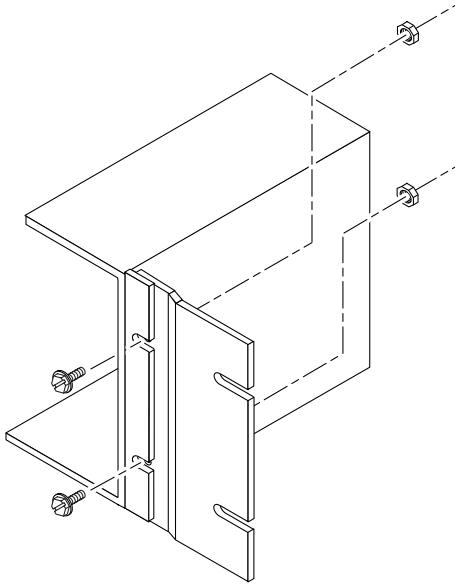

FIGURE 3-9 Securing the Adaptor Bracket
- b. Line up the top and bottom two threaded holes on the adaptor bracket with the holes on the mounting bracket (FIGURE 3-9).